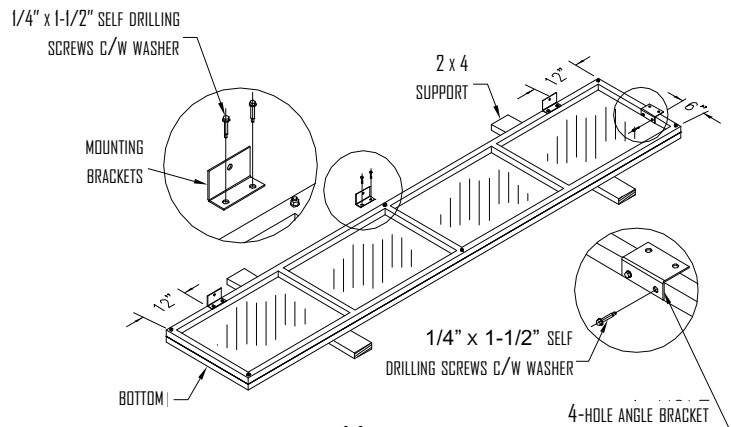

FIG. 14
- b. Position mounting brackets on wall edge of vertical frame (Fig. 14).
- Use three (3), 3-hole mounting brackets per vertical frame.
- c. Position 4-hole angle bracket on vertical frame (Fig. 14).